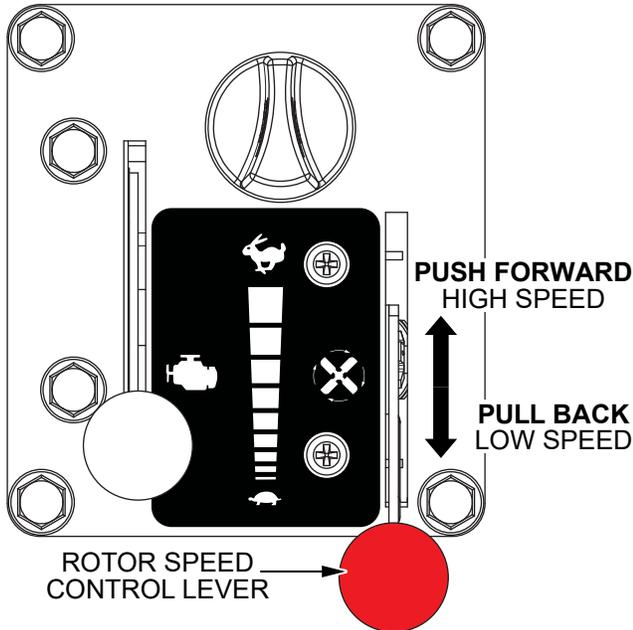
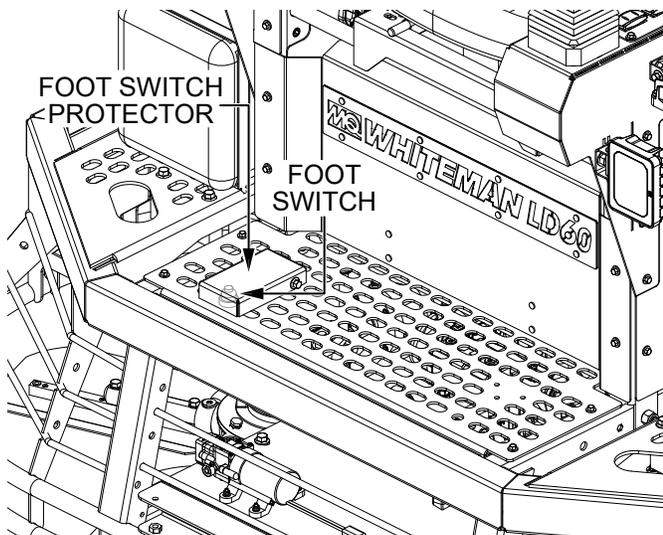

Figure 25. Rotor Speed Control Lever
Figure 26. Foot Switch
The **rotor speed control lever** (Figure 25) controls rotor speed in conjunction with the **foot switch** (Figure 26). The foot switch rotates the blades while the position of the rotor speed control lever determines the rotational speed of the blades.
1. With the engine running, depress and hold the **foot switch** (Figure 26) with your right foot to begin rotating the blades.